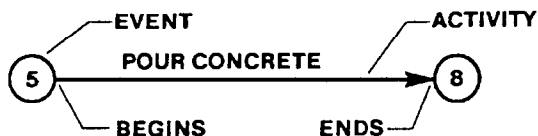

Figure G-1. Event numbers
(2) *Event Nodes.* A circle, which is called an event node, represents the start or finish of an activity. Numbers in the event node identify activities in the diagram. The rule for numbering events is that the number at the head of the arrow must be larger than the number at the tail. (For digital computer use, the arrow's tail could be designated "i" and its head "j." Each activity is then assigned a unique i-j designation.) In figure G-1, the activity may be called either "pour concrete" or "activity 5-8."